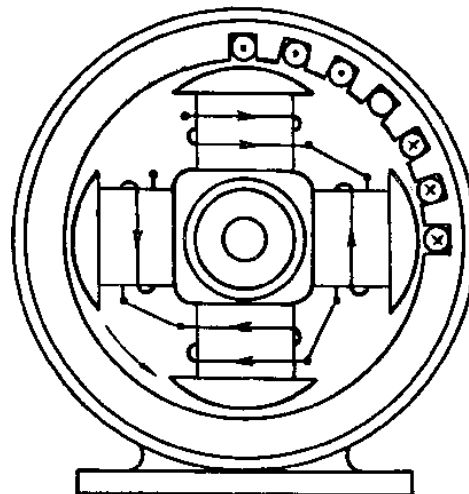

Figure 15
The principle of construction of the rotating field type of alternator is illustrated in figure 15.
In the diagram shown in figure 15, the field winding terminals A and B are connected to two slip-rings. Since the field poles are magnetised by direct current they are not usually laminated but are made of solid steel. The stator conductors have alternating emfs induced in them, consequently the stator core is made up of silicon steel laminations. The stator winding is carried in slots in the stator core.
- the pole faces of salient pole rotors are shaped so that the air gap is shorter at the pole centres than near the edges, as shown in figure 15. By this means the magnetic field is strongest at the pole centres and an approximately sinusoidal waveform of induced emf is produced.